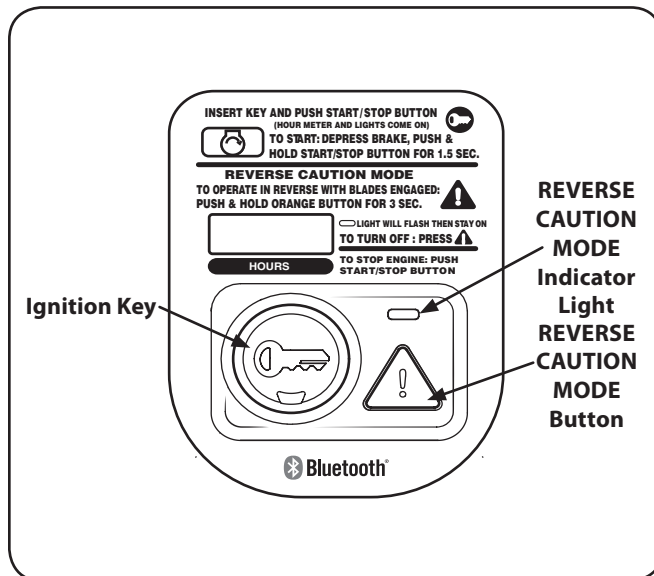

Figure 5-1
2. To activate the REVERSE CAUTION MODE push and hold the REVERSE CAUTION MODE  button for 3 seconds. See Figure 5-1.
3. The indicator light will flash and then stay on while the REVERSE CAUTION MODE is activated. See Figure 5-1.